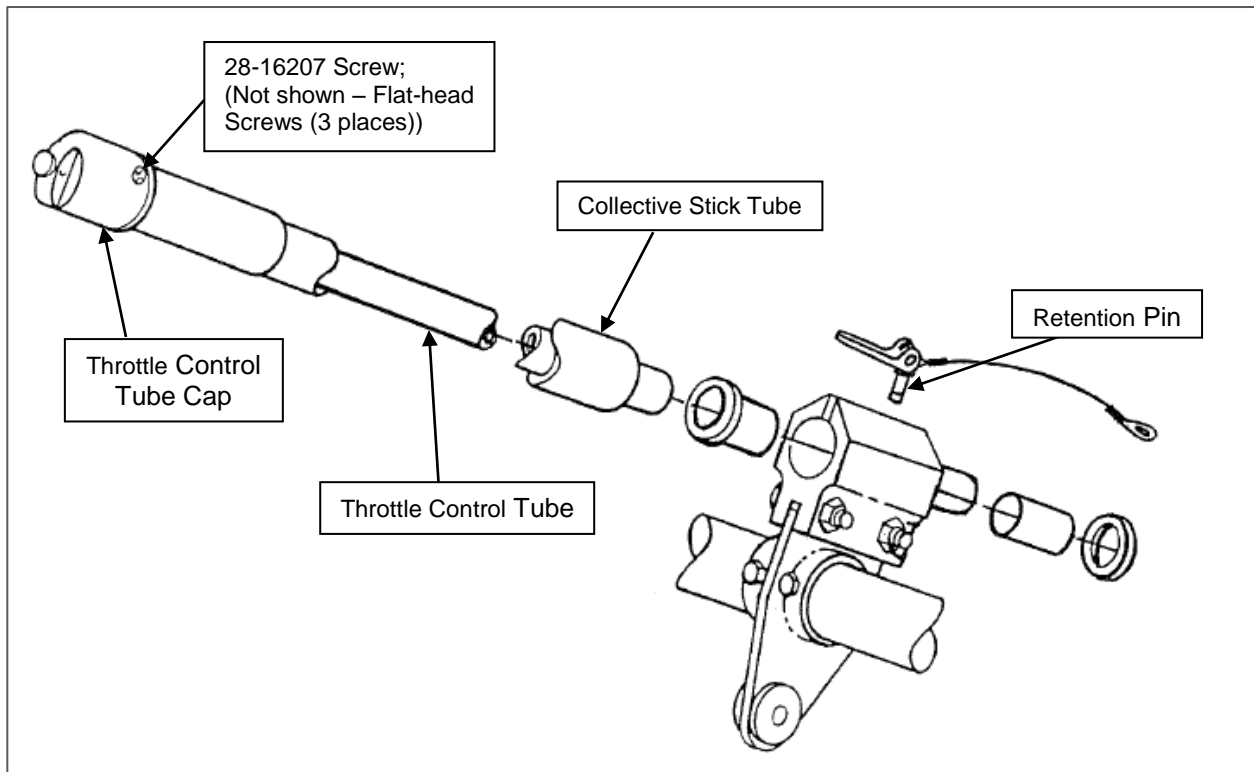

Figure 2. Collective Stick Assembly (F-28, F-28A, 280 models)
## 6.4.1 Disassembly (F-28, F-28A, and 280 models) (Figure 2):
- 6.8.1 Reassembly (F-28, F28A, and 280 models) (Figure 2):